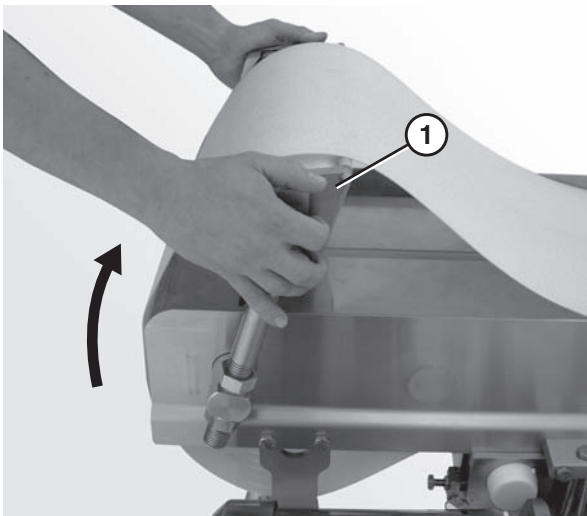

Figure 56
1. Place the idler tail (Figure 56, item 1) in the up position.